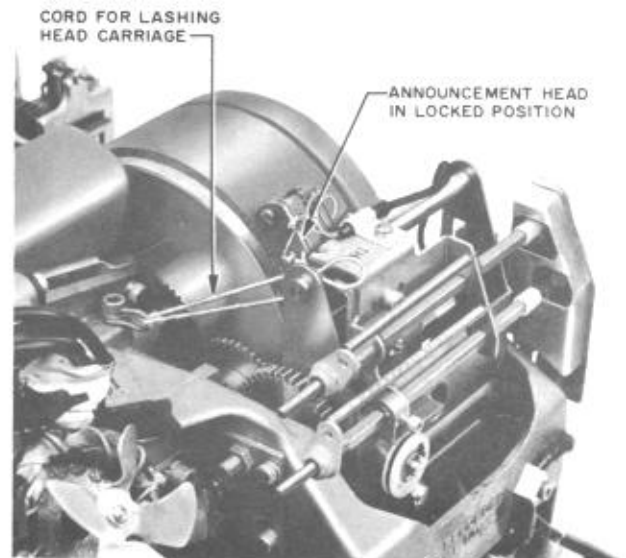

Fig. 10 — Head Carriage Lashing and Locking
- 1.14 Fig. 10 identifies lashing to be removed at time of installation.